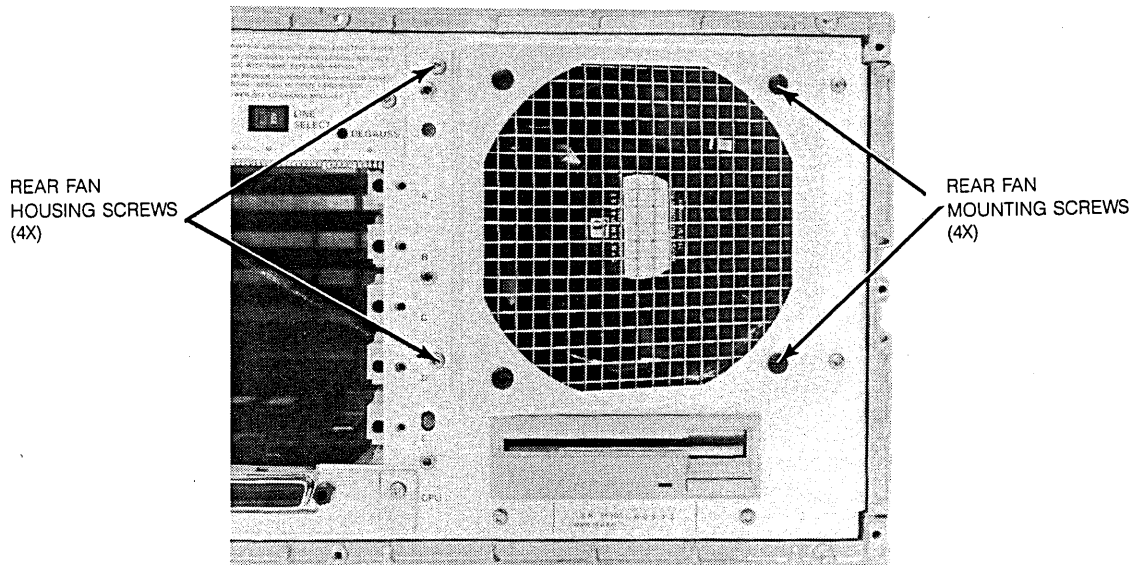

Figure 6-52. Rear Fan Removal
- b. With a Torx T-10 driver, remove the complete fan assembly from instrument rear panel (see figure 6-52).